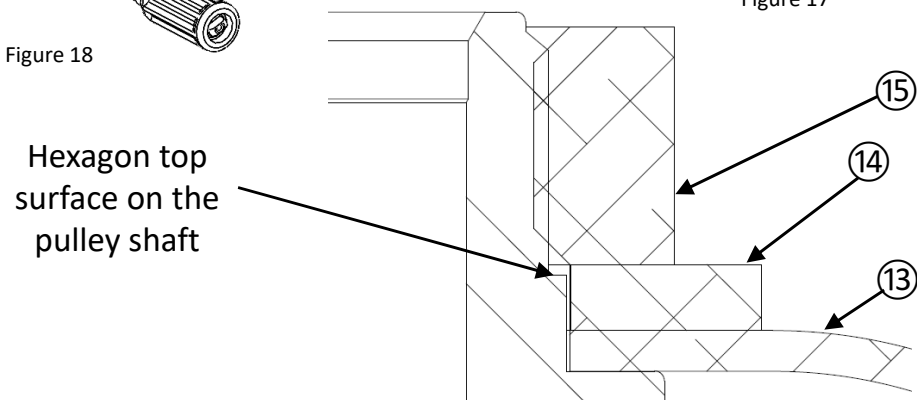

Figure 19
Make sure the alignment of the hexagon shapes of the cap ⑬ and washer ⑭ are fully engaged on the shaft hexagon shape before applying torque to the nut ⑮ (see figure 19).